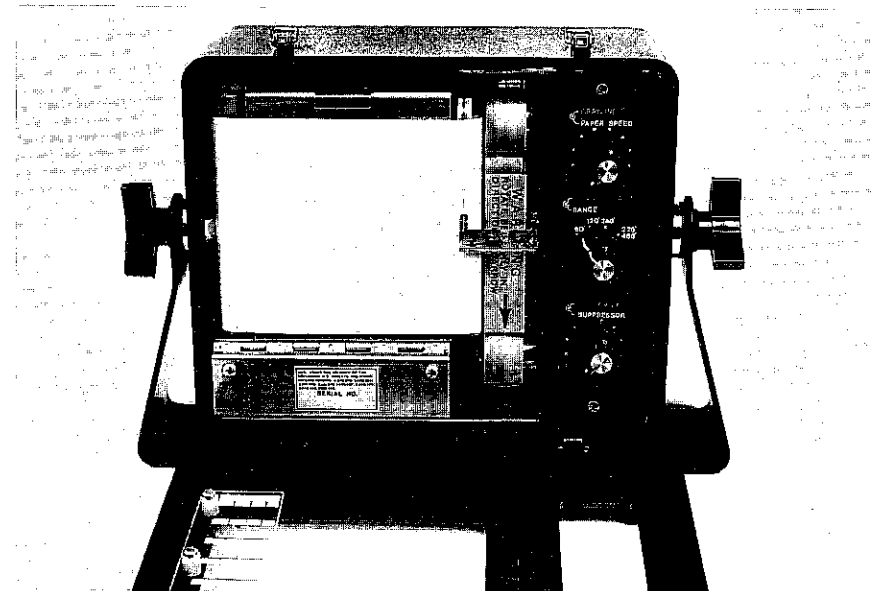

Fig. 34
2. Release both catches on the top of the case. Pull out and down on the top of the case front to expose the stylus belt. (See Figure 34.)